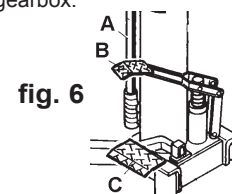

fig. 6
- 5.2.3. Ensure saddle is in the lowest position and use handle (fig.6. A) to move and centrally position jack beneath gearbox.
- 5.2.4. Check the release pedal (C) is fully closed, and pump foot pedal (fig.6. B) to raise saddle to the load.
**SLOWLY** depress the release pedal (fig.6. C) to **GENTLY** lower the saddle to minimum height before attempting to transport the load.